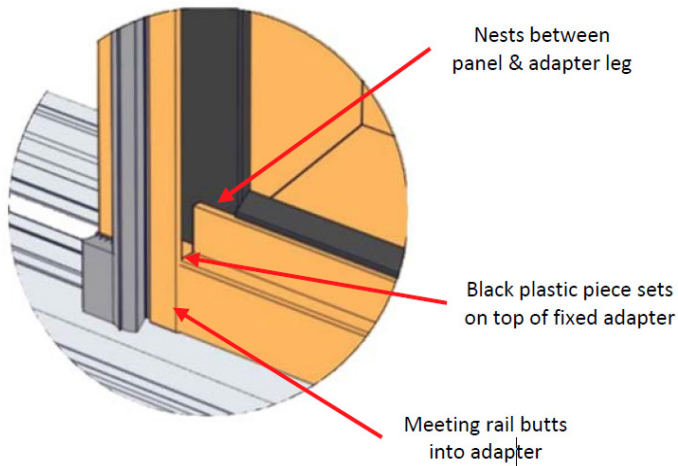

Fig. 26a
4. Install threshold on the exterior side of frame covering the bottom L-angle bracket. (Fig. 26a)